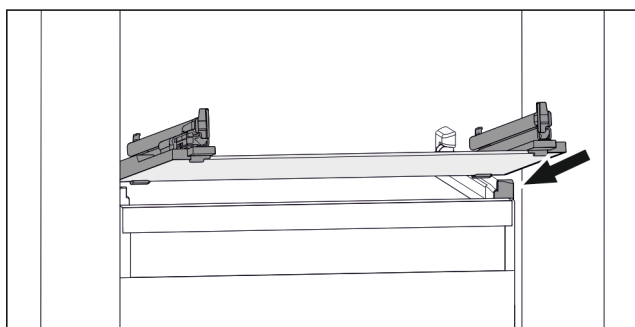

Fig. 100 Example illustration of glass shelf
- Position glass shelf at an angle behind the stoppers. (see Fig. 100)